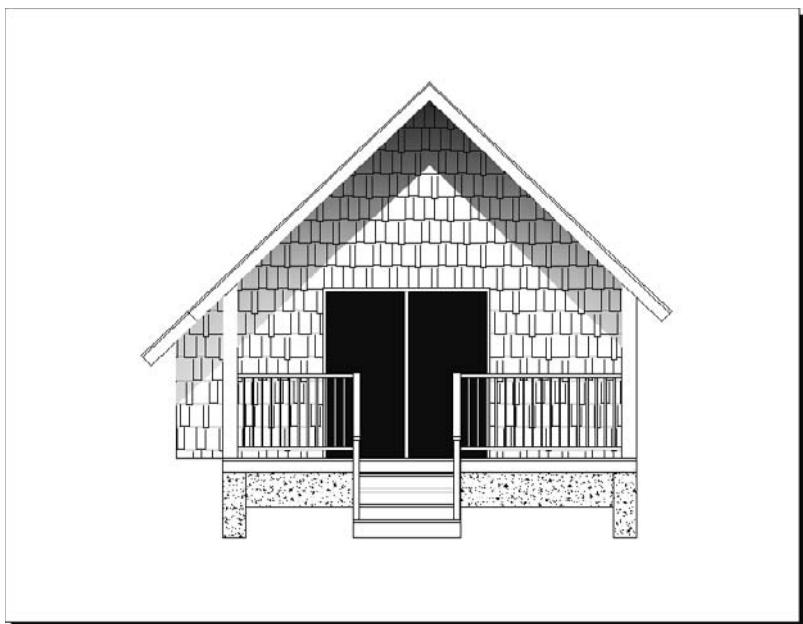

FIGURE 15.6 Plotting model space to a named view (East_elev)
4. Click the Preview button, and the preview should look similar to Figure 15.6. A view is always taken from the same fixed location. In the preceding chapter, you moved several components of the cabin drawing and might need to update the named views to reflect this. The View option for What To Plot is a valuable tool for setting up partial prints of a drawing.